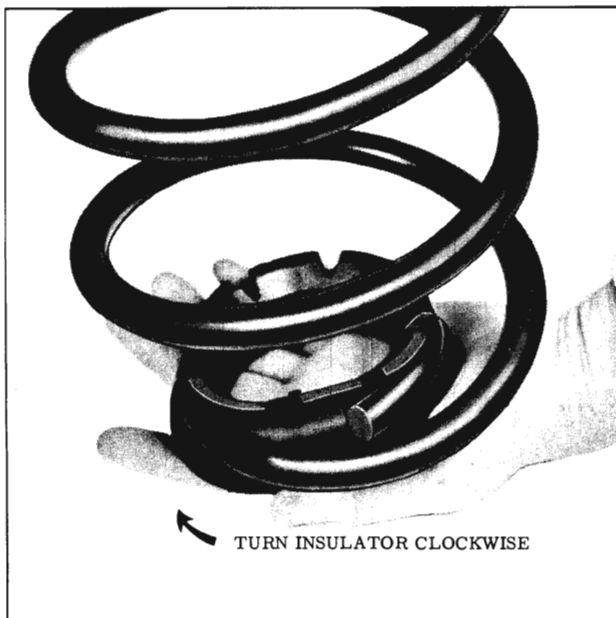

Fig. 5-33 Spring Insulator Installation
1. Place upper insulator in coil spring and rotate insulators lightly so that insulator fits snugly in end of spring coil. (Fig. 5-33)